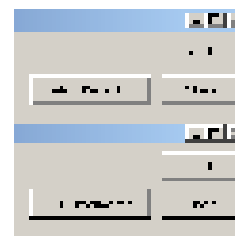

Figure 7.5
If antiretroviral therapy (ART) or tuberculosis (TB) has been selected on the System Configuration form during system maintenance (see **System Maintenance** for more information) the ART Patients or TB Treatments button will be displayed as shown in sample Figure 7.5. The button that is displayed depends on which option (ART or TB) was selected. If neither ART nor TB is selected, no button is displayed.